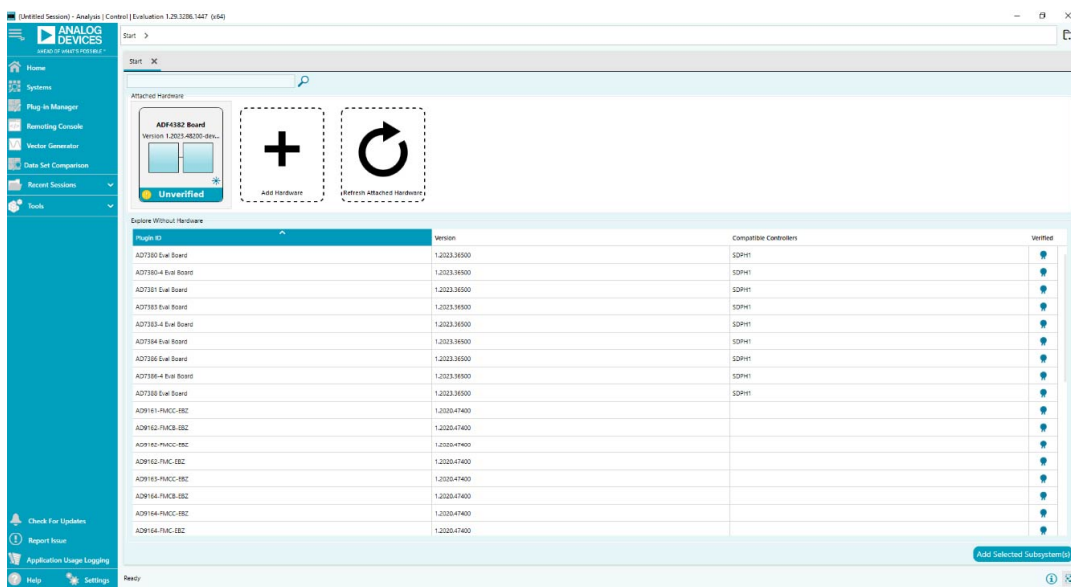

Figure 3. ACE Main Window, Attached Hardware (ADF4382A Evaluation Board)
1. Launch the ACE application. With the **SDP-S** controller board connected to the EV-ADF4382ASD2Z, the **Attached Hardware** section appears in the GUI, as shown in **Figure 3**.